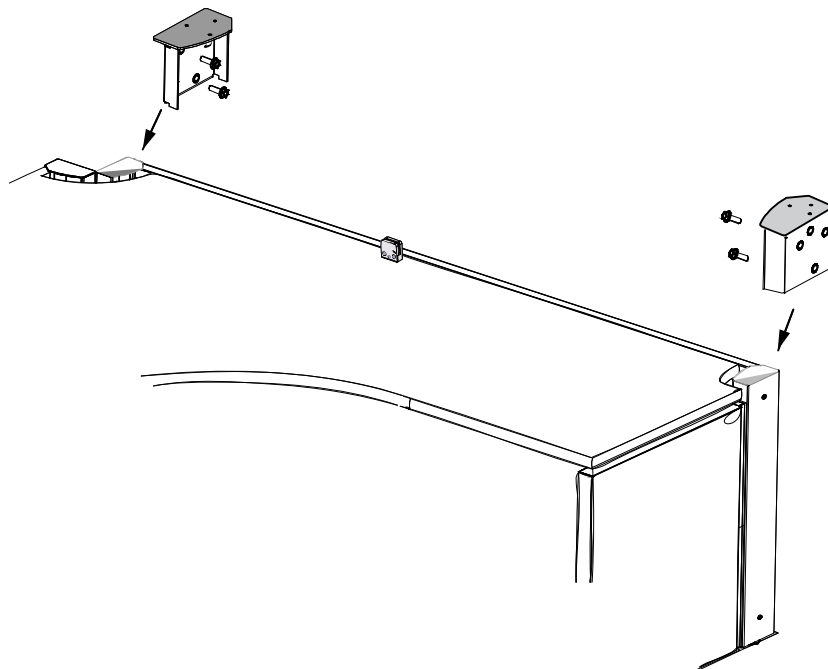

Figure 6: Attach Left and Right Metal Top Covers
5. Insert left and right Metal Top Covers, as shown in **Figure 6**. Using a ratchet with short extension, and a 1/4" Hex Socket, secure each Metal Top Cover to the stretcher frame with two 1/4 – 20 x .75" Long Hex screws, supplied in the installation kit. Once each Metal Top Cover is inserted, the two hex screws used to secure the cover to the stretcher can be threaded and tightened from underneath the worksurface corner.